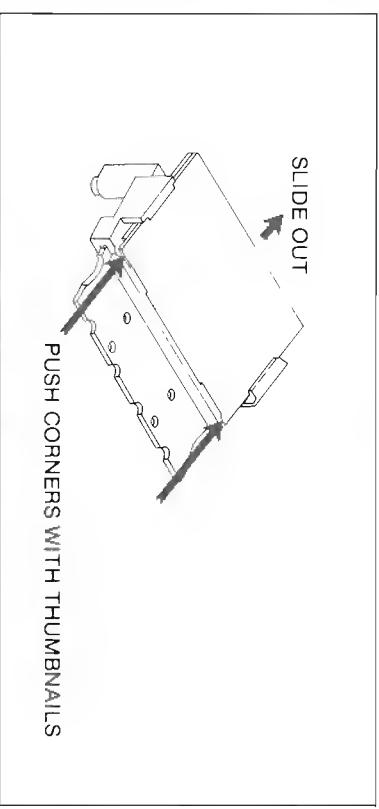

Figure 4-3. Disassembling the LCD
- The LCD interconnect (item 7) and the microcomputer interconnect (item 5) should not be touched with fingers or contaminated. Handle these items with tweezers and keep them clean.
- The microcomputer interconnect (item 7) is susceptible to corrosion caused by the reaction between the metal in the connector and possible contaminants in the air such as smoke or sulfur. Store the connector in an air-tight container if the LCD is disassembled for a long period of time.
- To disassemble the LCD, use your thumbnails and push on the corners of the LCD display, gasket and display lens so that all three components slide out together as shown in Figure 4-3.